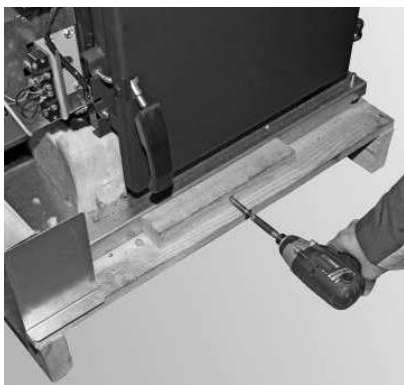

Fig. 7 Removing transport screws
- Remove 2 x transport screws at front and back – Fig. 7.